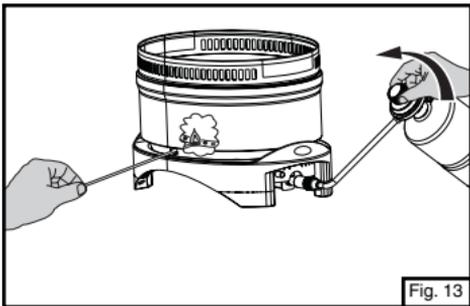

Fig. 13
- Insert long lighted match through observation hole. Place flame near burner and open regulator valve. (Fig. 13)